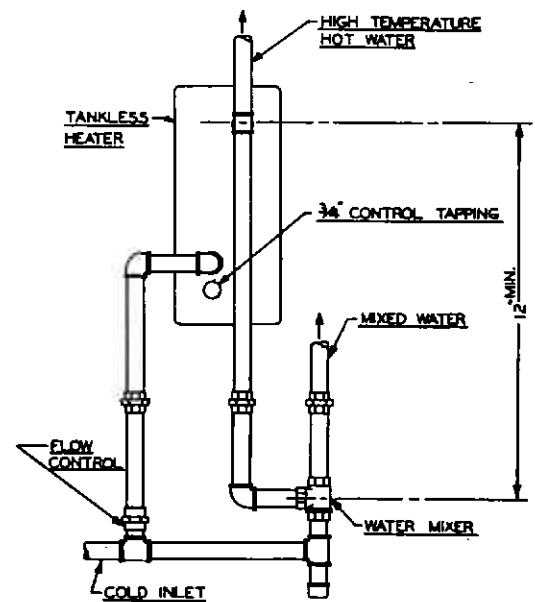

Figure 1A
Install Water Heater (18) when required, in large opening in back section. See Figure 1A for suggested piping.